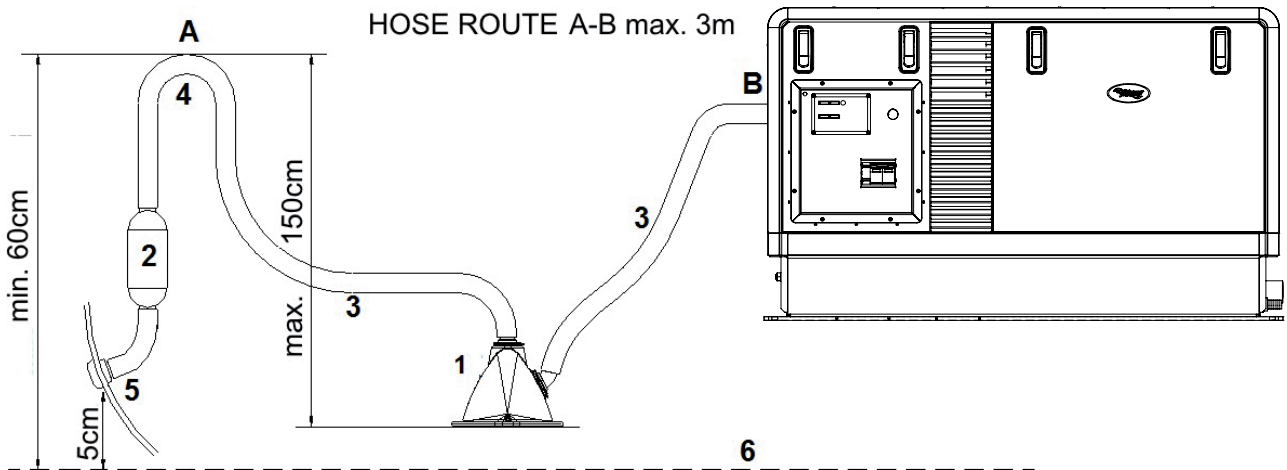
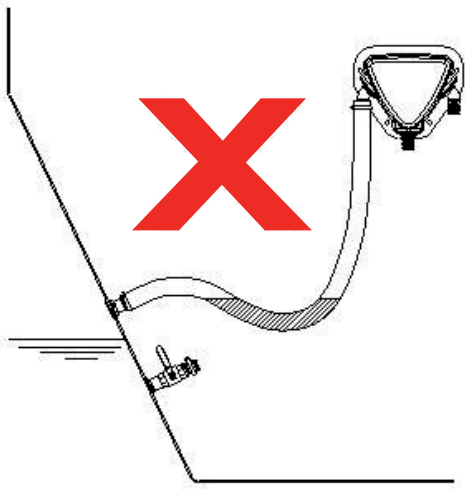

Figure 8: Exhaust system
Figure 11: Water trap in exhaust system
The generating set exhaust system must remain completely independent and separate from the exhaust system of any other engine on board. A water lock prevents the generating set from being flooded by cooling water and should be installed as close to the generating set as possible. The lock must be large enough to hold the entire water volume held in the hose from the top of the goose neck to the water lock. The water lock must be installed at the lowest point of the exhaust system (ref. to fig. 8, ref. 1). The exhaust hose must have an inner diameter of 50 mm (1½”). The exhaust system must be installed so that the back pressure inside the exhaust does not exceed 0.07 bar (1psi – 70 cm water column) and total length from the generator to the top of the goose neck or water/separator does not exceed 3m (10 ft.). (Refer to paragraph 5.4.3 of the user’s manual).
The exhaust hose descends from the capsule to the water lock. Then the hose rises via the “goose neck” to the through-hull exhaust outlet, situated minimum 50 mm above the water line (see fig. 8, ref 5.) The “goose neck” must be vertical and situated preferable along the ship’s keel centre line. If the generating set is mounted less than 600 mm (24”) above the waterline, a “goose neck” must be installed to prevent the engine from overflowing. It is recommended to install an extra muffler close to the through-hull fitting.
However water traps should be avoided as the fumes still contains water and this should not accumulate in bends (see fig. 11). An additional outlet exhaust muffler close to the hull outlet will help further to reduce noise emission (figure 8, ref. 2)